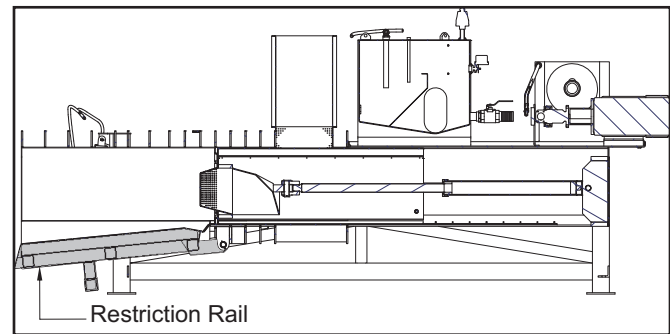

Figure 23 - Restriction Rail Lowered
The restriction rail (see Figure 23), provides a variable restriction (modulation) on the passage of product to the discharge. This restriction regulates the force required from the plunger to push the product toward the discharge. It is the compressing action of the plunger that forces the water from the product. The water is evacuated through drain holes in the frame.
**Note:** Moving the control box RESTRICTION Switch (S-2) from “AUTO” to “MAN” allows the automatic restriction control system feature to be bypassed. In Manual mode, the Restriction Rail cylinder pressure is zero (0) and the Restriction Rail will fully open (lower) (see Figure 23).